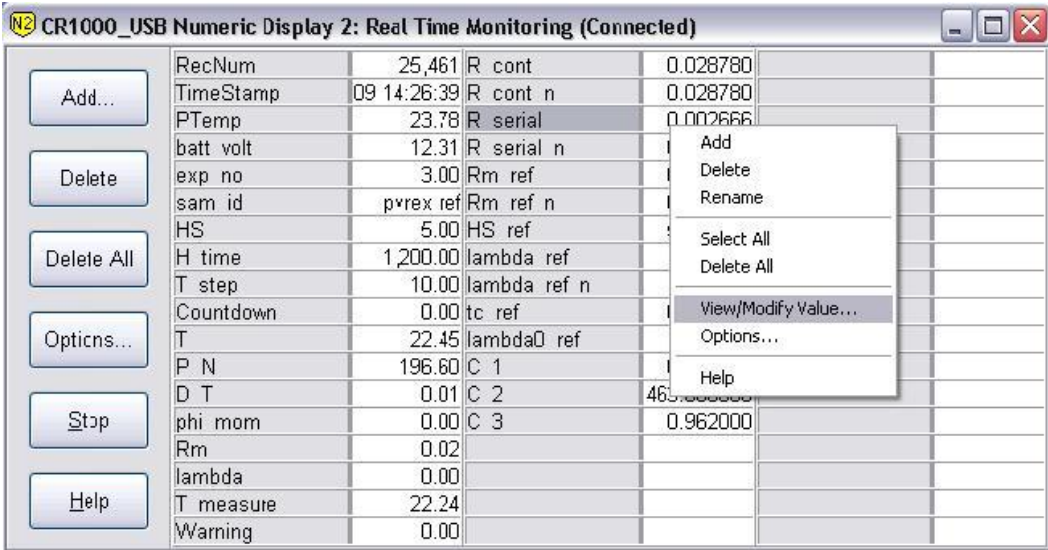

Figure 5.5.1 Changing values of numeric variables in using the right-click menu.
- Click "Connect" in the LoggerNet main menu. A screen as in figure 5.5.1 appears.
- Right-click on the field that has to be modified and select “View/Modify Value...” (figure 5.5.1).